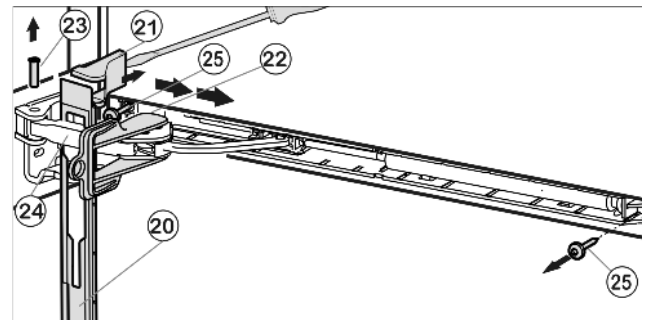

Fig. 11
- ▶ Push panel forward over the damper bracket Fig. 11 (24) in the direction of the appliance.
- ▶ Engage locking device Fig. 11 (22) into place inside oblong hole.
- ▶ Lift off cover Fig. 11 (21) from the outside using a screwdriver and remove by pulling outwards.
- ▶ Push bolt Fig. 11 (23) out from below.
- ▶ Press damper bracket Fig. 11 (24) in the direction of the door.
- ▶ Remove panel Fig. 11 (20).
- ▶ Unscrew entire soft stop unit (2 x Torx® 15) Fig. 11 (25).